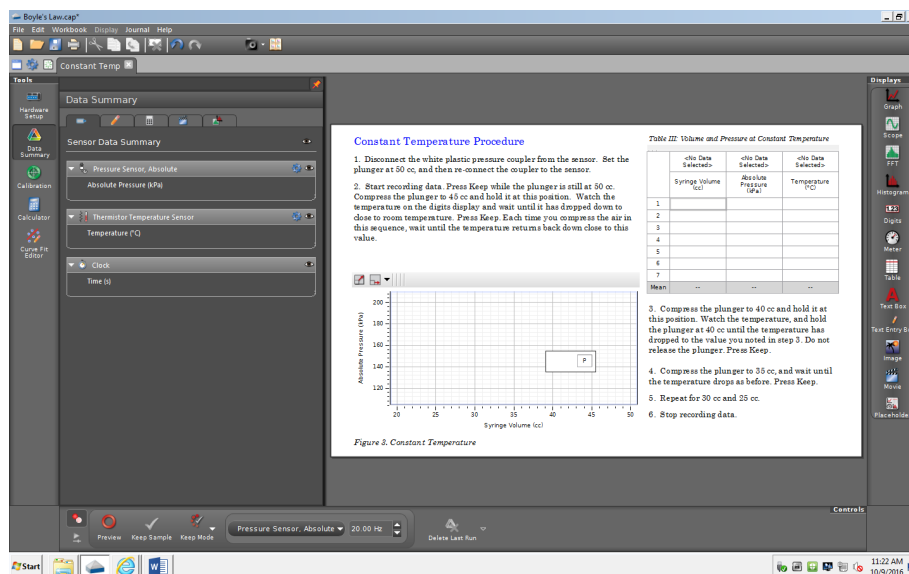

Fig. 3. Screenshot of Boyles' law lab
4. Choose Data Summary if not chosen yet; the screen should be like fig. 3.